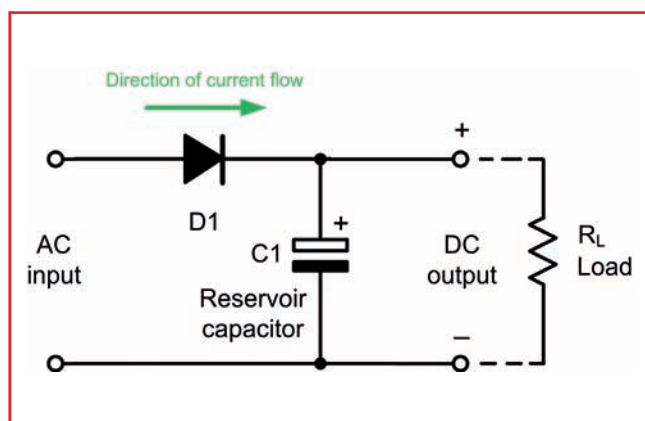
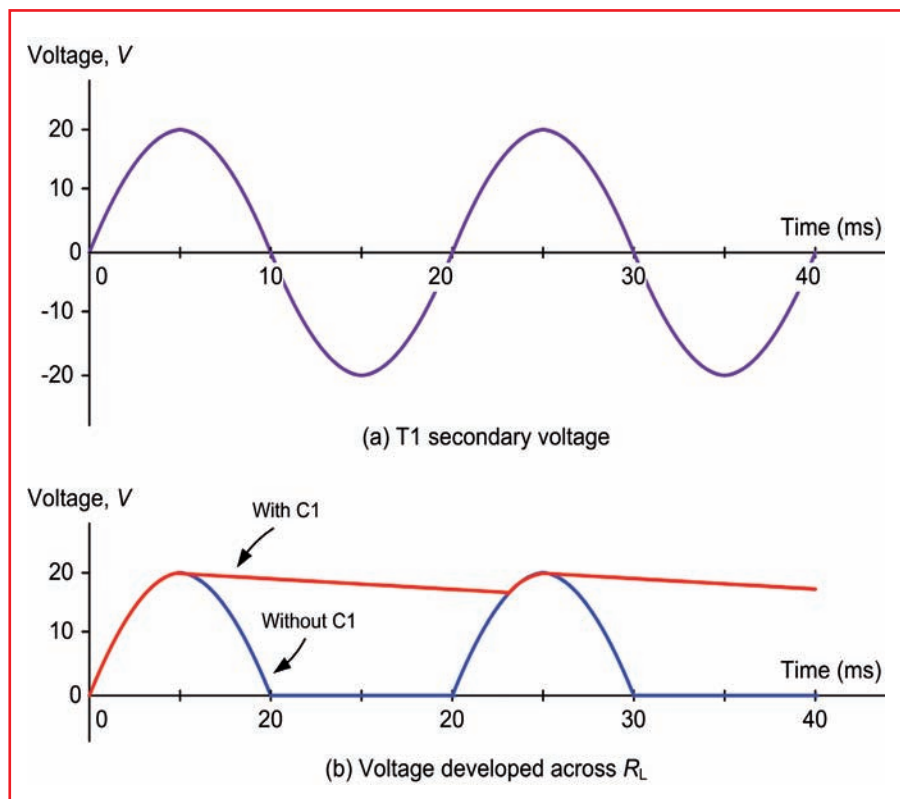

Fig.3.6. A simple half-wave rectifier
Fig.3.7. Voltage waveforms for the half-wave rectifier
The most common application for a diode is that of changing alternating current (AC) into direct current (DC). Fig.3.6 shows a simple half-wave rectifier power supply in which the diode passes current when the incoming voltage is positive, but blocks current flow when it is negative. In order to maintain a constant voltage at the output, a reservoir capacitor is connected across the DC output terminals. This capacitor is charged on positive half cycles and discharges on negative half cycles, as shown in Fig.3.7.